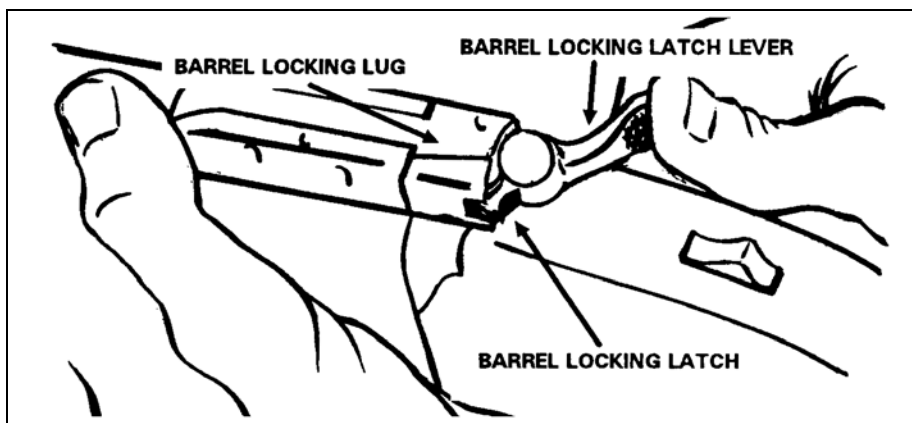

Figure A-7. Operation of the barrel locking latch.
e. **Barrel Locking Latch and Lever.** Figure A-7 on page A-6 shows the barrel locking latch on top of the receiver. This latch locks the barrel and the receiver together. To open (break) the breech end of the barrel, press the latch lever all the way to the right.